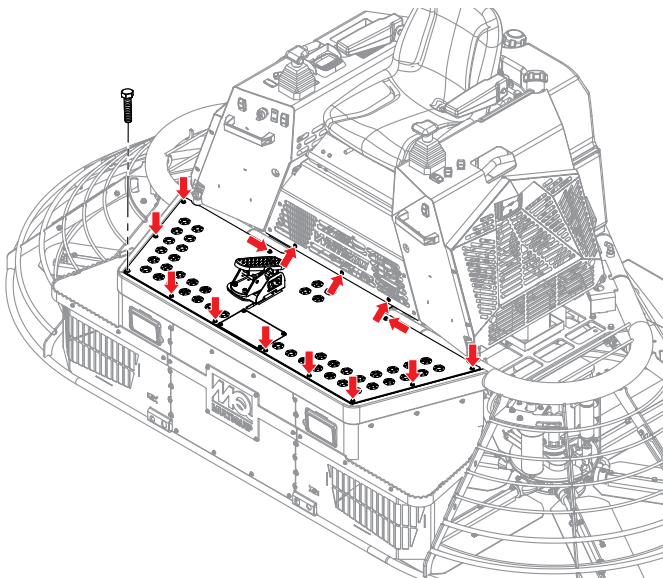

Figure 1. Foot Platform Removal
1. Using an 8 mm socket, remove and set aside the 15 screws securing the foot platform to the frame of the STX6H (Figure 1).